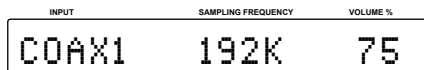

Figure 1
1. Press the STANDBY/ON Push-button on the Front Panel or press the MODE (Power) Push-button on the Remote Control to switch On the 321. The 321 will go through a brief startup initialization with the Front Panel Display indicating the last used Input Source and volume setting. Refer to figure 1.
3. Press the SETUP Push-button to exit from the Setup Mode. The LED above the SETUP Push-button will extinguish and the Front Panel Display will revert back to its display of Input, Sampling Frequency and Volume %. Refer to figure 1.